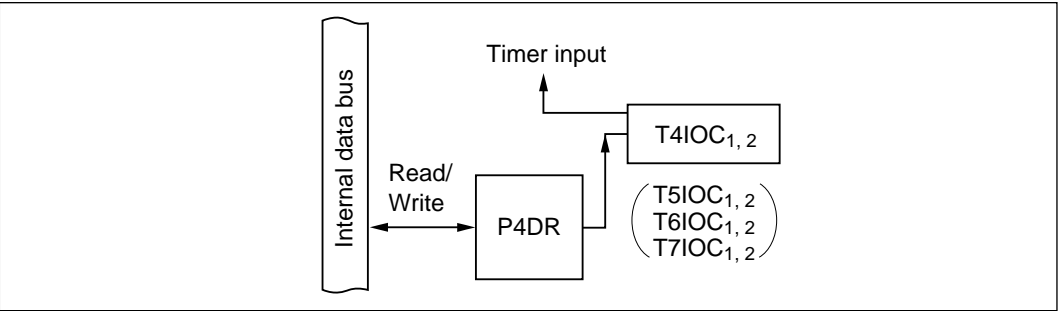

Figure 10-25 Input Capture Combined with General-Purpose Output (Modes 1 to 7)
(4) Timer Input Combined with General-Purpose Output (Modes 1 to 7): Figure 10-25 shows a block diagram illustrating the input capture function when combined with general-purpose output. Table 10-19 indicates register read/write data. An input capture pin can also function as an output port, in which case the output value is input to the timer.